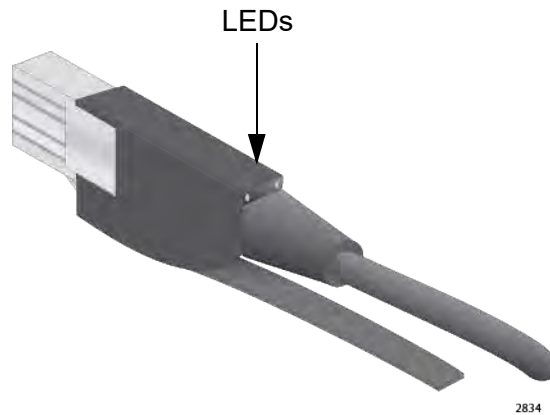

Figure 16. Port LEDs on an RJ Point 5 Cable Connector for the AT-SBx81GT40 Line Card
**LEDs** The LEDs for a port on the AT-SBx81GT40 Line Card are found on the RJ point 5 cable connector. The LEDs are shown in Figure 16.